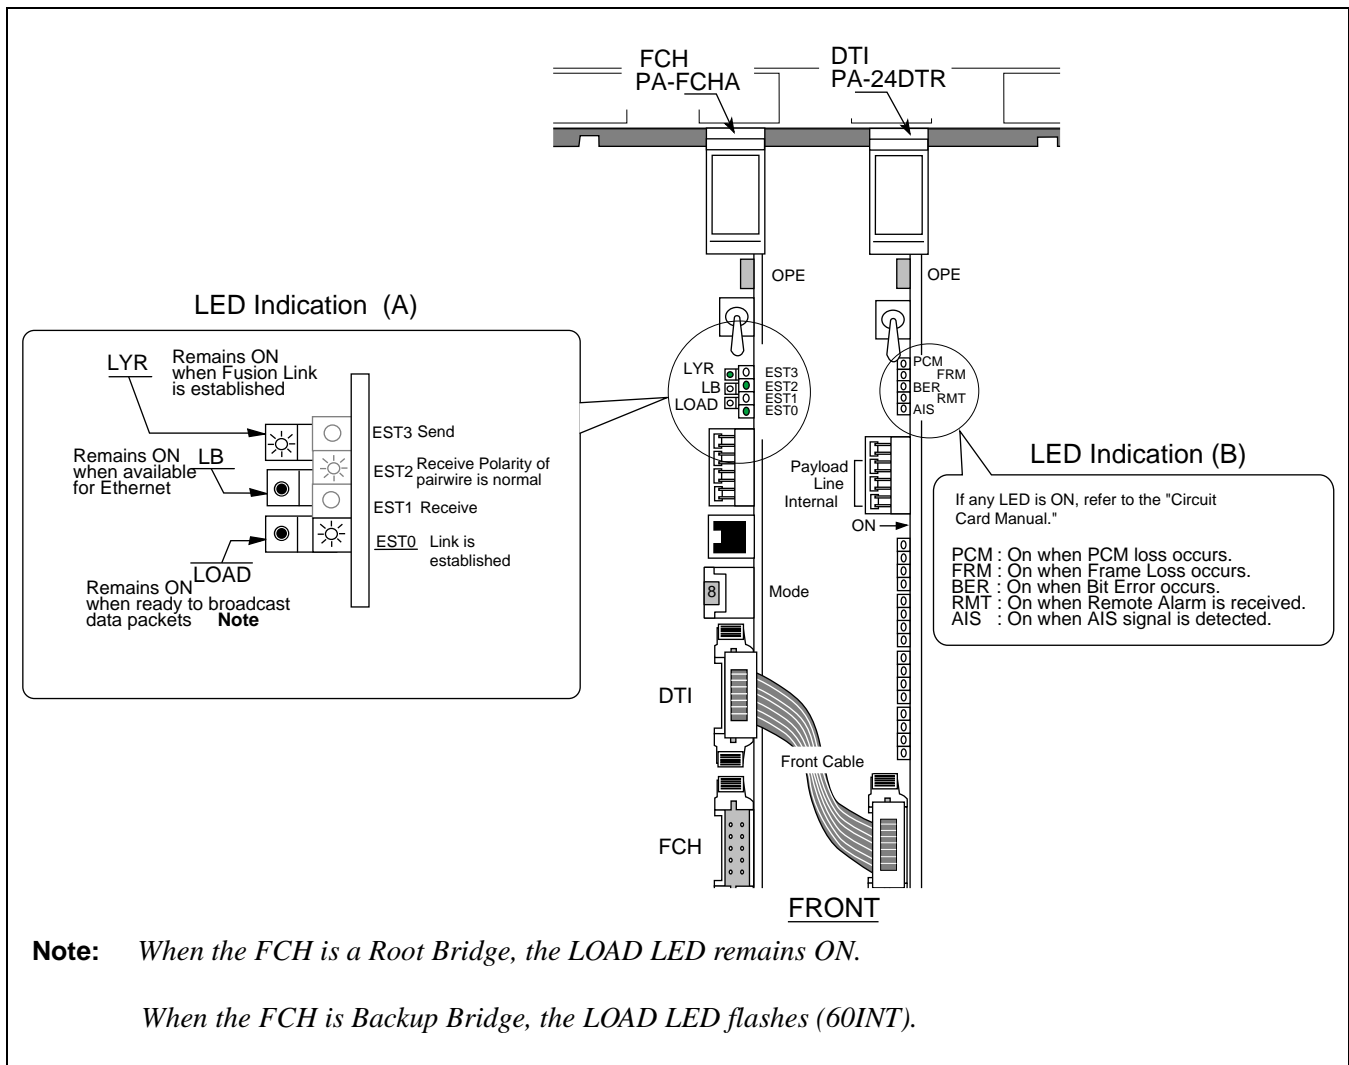

Figure 6-2 LED Indications on Fusion Link Related Circuit Cards
Before performing the Fusion link test, be sure to check the Fusion Link LEDs. Refer to Figure 6-2. When the Fusion link is established, the LYR lamp lights green on the FCH (PA-FCHA) circuit card. However, if it remains off, the layer 2 (Link Layer) is not established. If this is the case, follow the repair procedure listed here.
1. Confirm the LYR LED lights green on the front edge of the FCH (PA-FCHA) circuit card. (See "LED Indication (A)" in Figure 6-2.) When the LED lights green, the fusion link is established.
2. Make sure that any alarm LED is not ON (red/yellow). (See LED Indication (B) in Figure 6-2.)